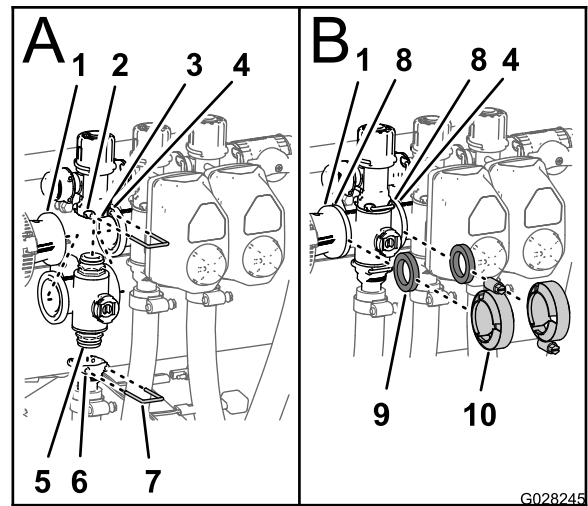

Figure 64
1. Insert the upper endcap fitting of the manifold valve into the bypass fitting (A of Figure 64).
2. Secure the endcap fitting to the bypass fitting by inserting a retainer into the socket of the bypass fitting (A of Figure 64).
3. Assemble the outlet fitting onto the lower endcap fitting of the manifold valve (A of Figure 64).
4. Secure the endcap fitting to the outlet fitting by inserting a retainer into the socket of the outlet fitting (A of Figure 64).
5. Align a 1 gasket between the flanges of the reducer coupling and the section valve manifold (B of Figure 64).
6. Assemble the reducer coupling, gasket, and section valve manifold with a clamp tightened hand tight (B of Figure 64).
7. If installing the 2 left most section valves, align a 1 gasket between the flanges of the 2 adjacent section valve manifolds (B of Figure 64).
8. Assemble the and 2 adjacent section valve manifolds and gasket with a clamp tightened hand tight (B of Figure 64).